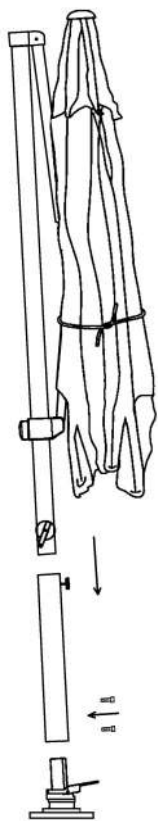

Fig 1
1. Place the Lower Side Post (C) over the Rotate Bearing stem and align the holes at the bottom of the post.
2. Insert and tighten the 2 locking screws (G) into the side of the lower post as shown in Figure 1.